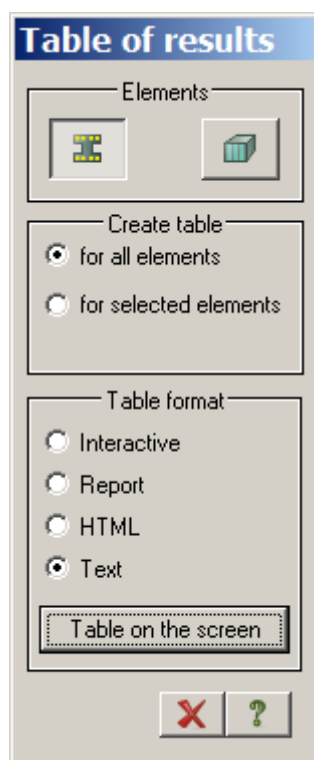

Figure 1.23 **Tables of analysis results** dialog box
- ⇒ In the **Tables of analysis results** dialog box (see Fig.1.23), the following data is mentioned by default: **Reinforcement in bars** option in the **Elements** area, option **For all elements** in the **Create table** area and **Text** option in the **Table format** area.